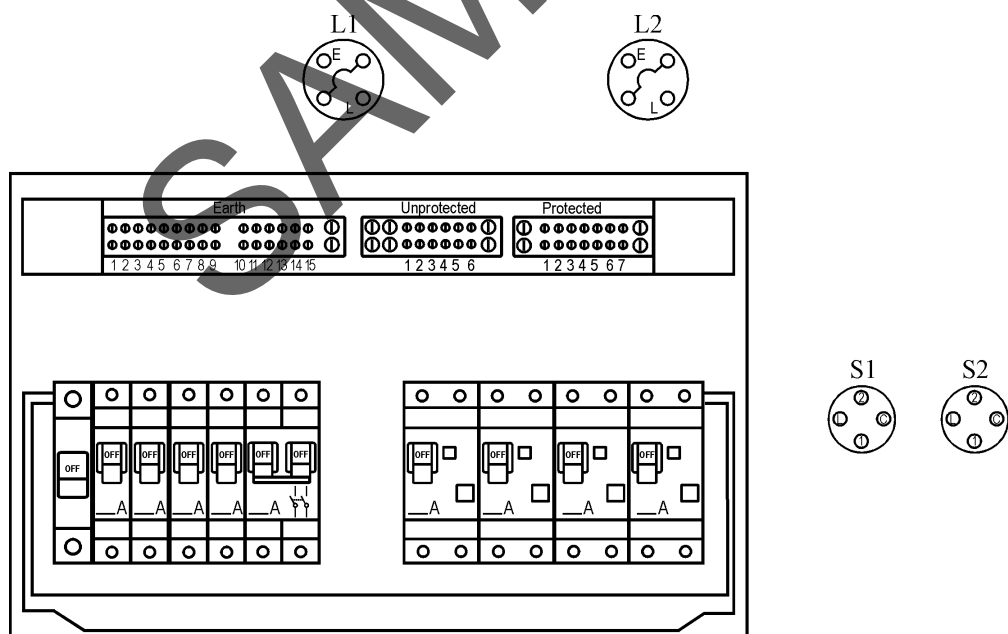

Figure 1.2 Wiring Diagram
- Complete the wiring diagram in Figure 1.2 below. Show the conductors as installed in sheathed cables.